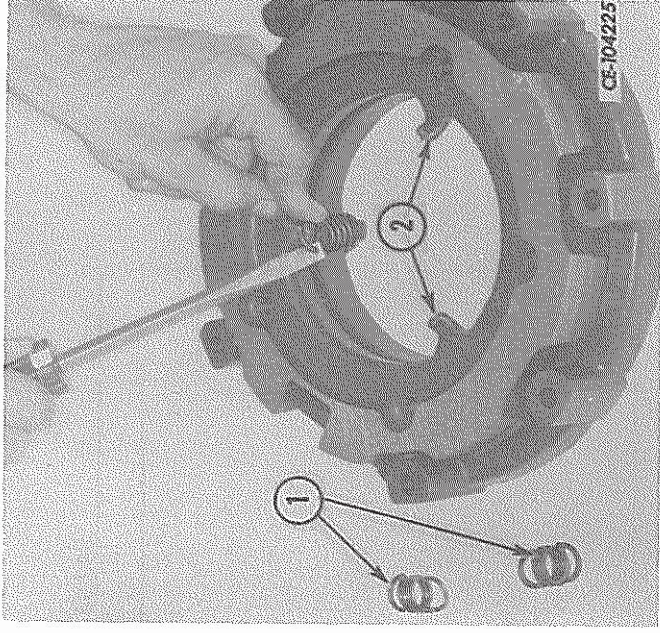
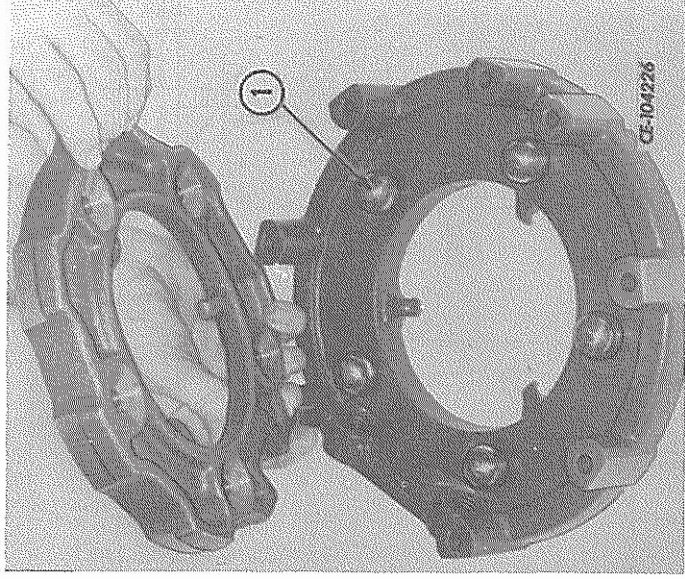

FIG. 57 — Removing the Actuator Assembly Return Springs
FIG. 58 — Removing the Brake Actuator
3. To separate the brake actuator assembly, pry the three return springs (1, Fig. 57) from the actuator ear lugs (2) using a screw driver. Remove the actuator and five steel balls (1, Fig. 58) from the pressure plate.
4. If the actuator assembly was disassembled, reassemble as follows. Place the five steel balls (1, Fig. 58) in the ramp of the pressure plate. Use a straight edge to measure the required distance of .615/.605" (15.62/15.36mm) (refer to Fig. 64A) between steel balls and holding bolt bores of the pressure plate. Distance must be same for 5 places within .002" (0.0508mm). Position the actuator (Fig. 58) over the pressure
plate aligning the actuator ramp with the steel balls and secure the assembly with the three return springs (1, Fig. 57). These return springs must be installed so the inside radii of the bends are toward the center of the actuator assembly (Fig. 64).